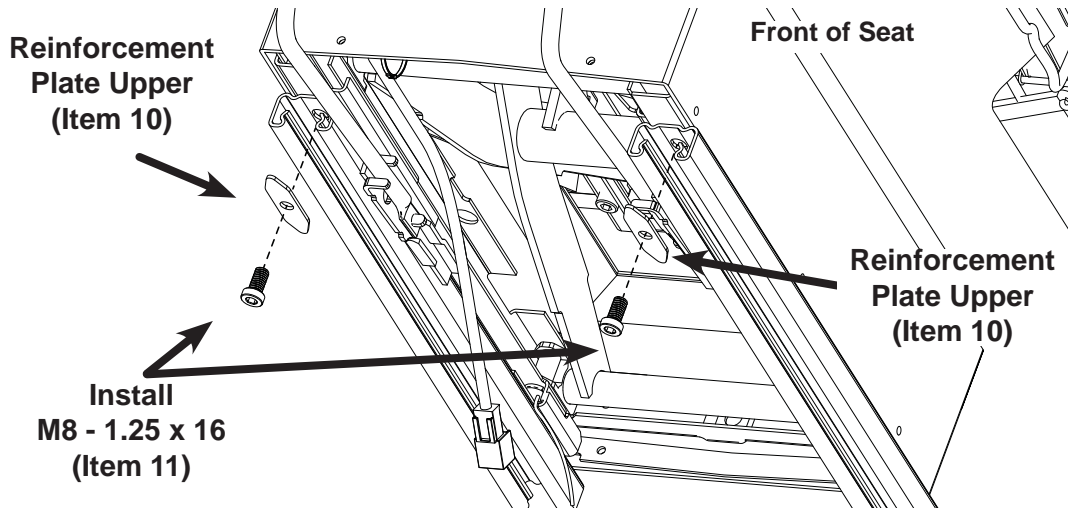

Fig. 11
14. Using hardware from **(BAG A)** Install (1) PLATE-Reinforcement, Upper (Item 10) and (1) BOLT, Socket Head, M8 - 1.25 x 16 (Item 11), on each side of track to seat at front using 6mm Hex Bit and Ratchet. See Fig. 11 Align plate to be parallel with rail using assistance from the forked pry tool